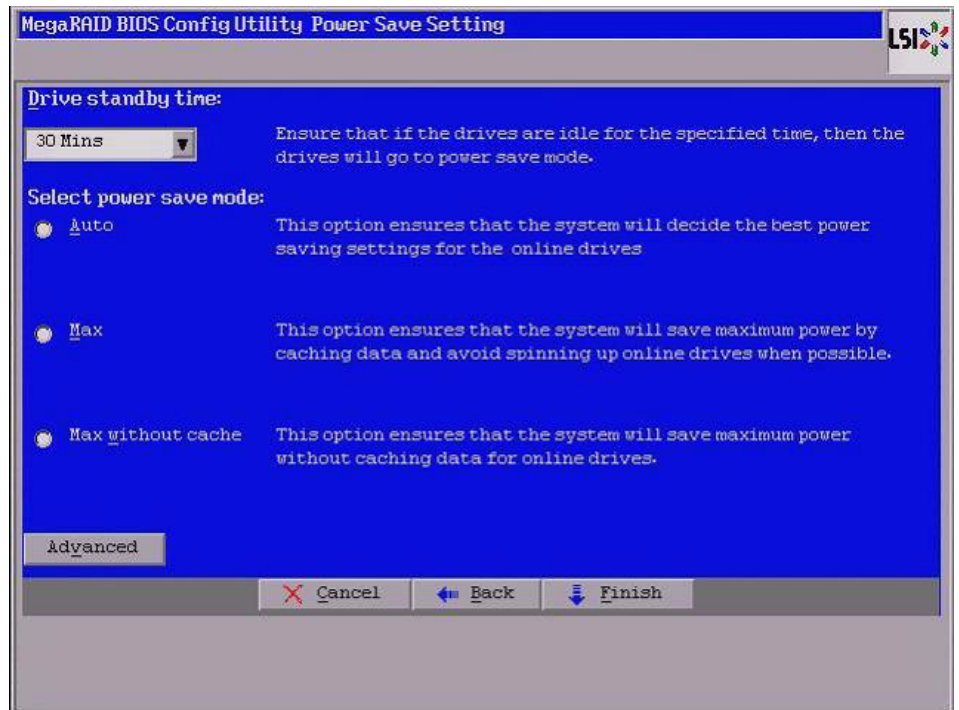

Figure 158: Power Save Setting - Power Save Mode
You can select the drive standby time and the Power-Save mode by selecting the **Auto**, **Max**, and **Max without cache** options in Figure 158.
1. Click the **Advanced** button in the Power-Save setting dialog as shown in Figure 158.